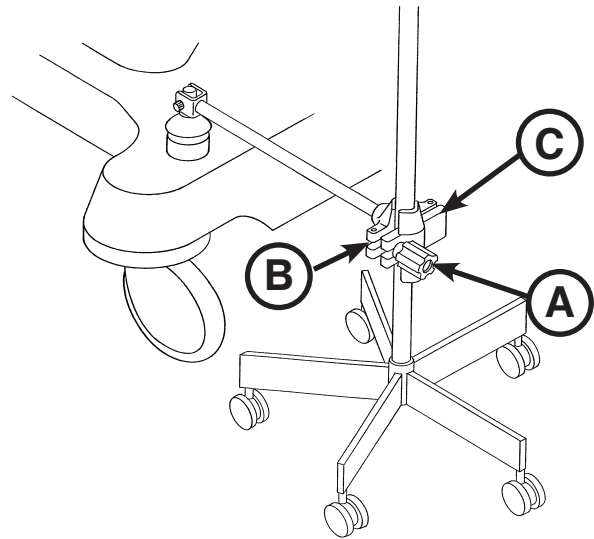

Figure 36: I.V. Caddy
2. Turn knob (A) counterclockwise to loosen the pole clamp (C) (Figure 36).
3. Pivot the knob (A) away from the clamp (B). The clamp (C) may then be opened.
4. Place the I.V. pole into the clamp (B). Close the clamp (C) around the I.V. pole and pivot the knob (A) back into position.
5. Turn the knob (A) clockwise to tighten it. The I.V. pole is ready to be transported with the unit.